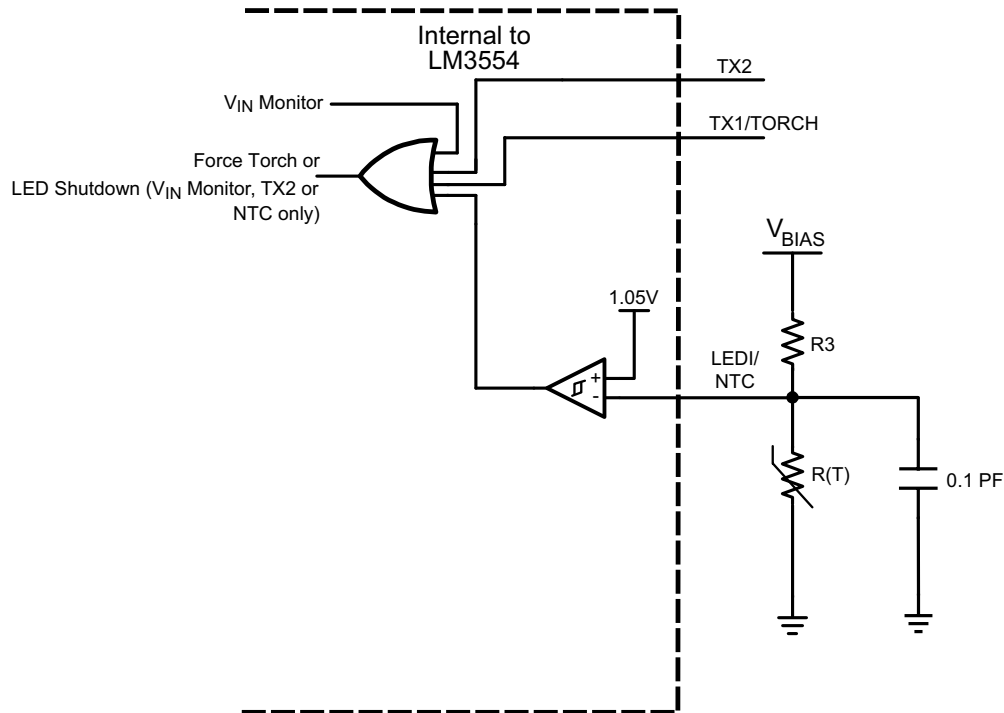

Figure 43. Thermistor Voltage Divider and Sensing Circuit
Figure 43 is chosen so that it is equal to:
- V_{BIAS} is shown in Figure 43
- (5)
Programming bit [3] of the Configuration Register with a 1 selects thermal comparator mode making the LEDI/NTC pin a comparator input for flash LED thermal sensing. Figure 43 shows the internal block diagram of the thermal sensing circuit which is OR'd with both the TX1 and ENVN/TX2 (TX2 mode) to force the LM3554 from flash to torch mode. This is intended to prevent LED overheating during flash pulses.